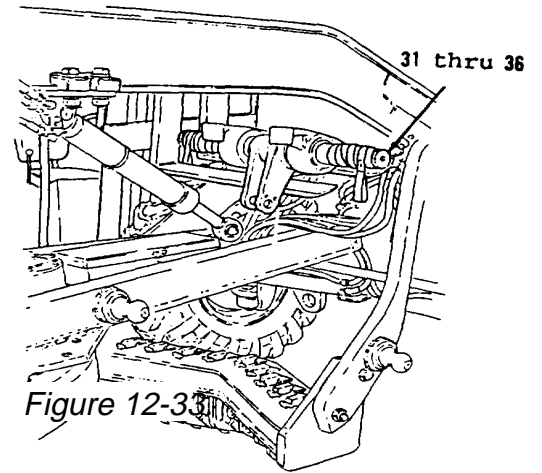

Figure 12-33
1. Support shaft (36, Figure 12-33), with forklift truck or eq
- 3. Using an arbor press, install bearing (32) into each bracket (33).
- 4. Install two new seals (31) in each bracket (33, Figure 12-33).
- 5. Install items 33 thru 31 as an assembly onto both sides of the shaft (36).
- 6. Attach hoist and slings to each end of shaft (36) and transport to the work area.
- 7. Using forklift truck or equivalent vehicle, position items 33 thru 31 on the shaft (36).